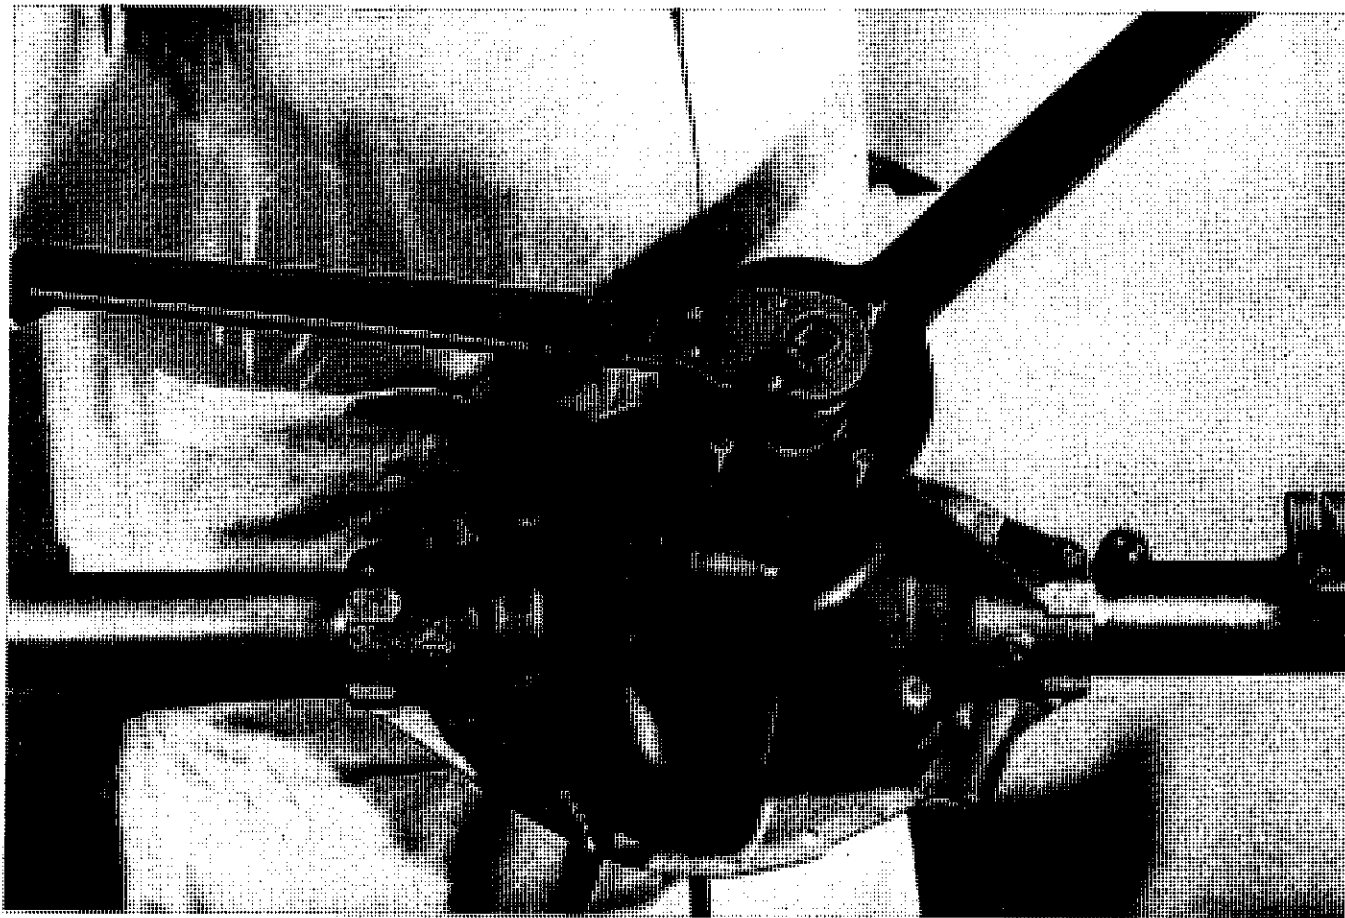
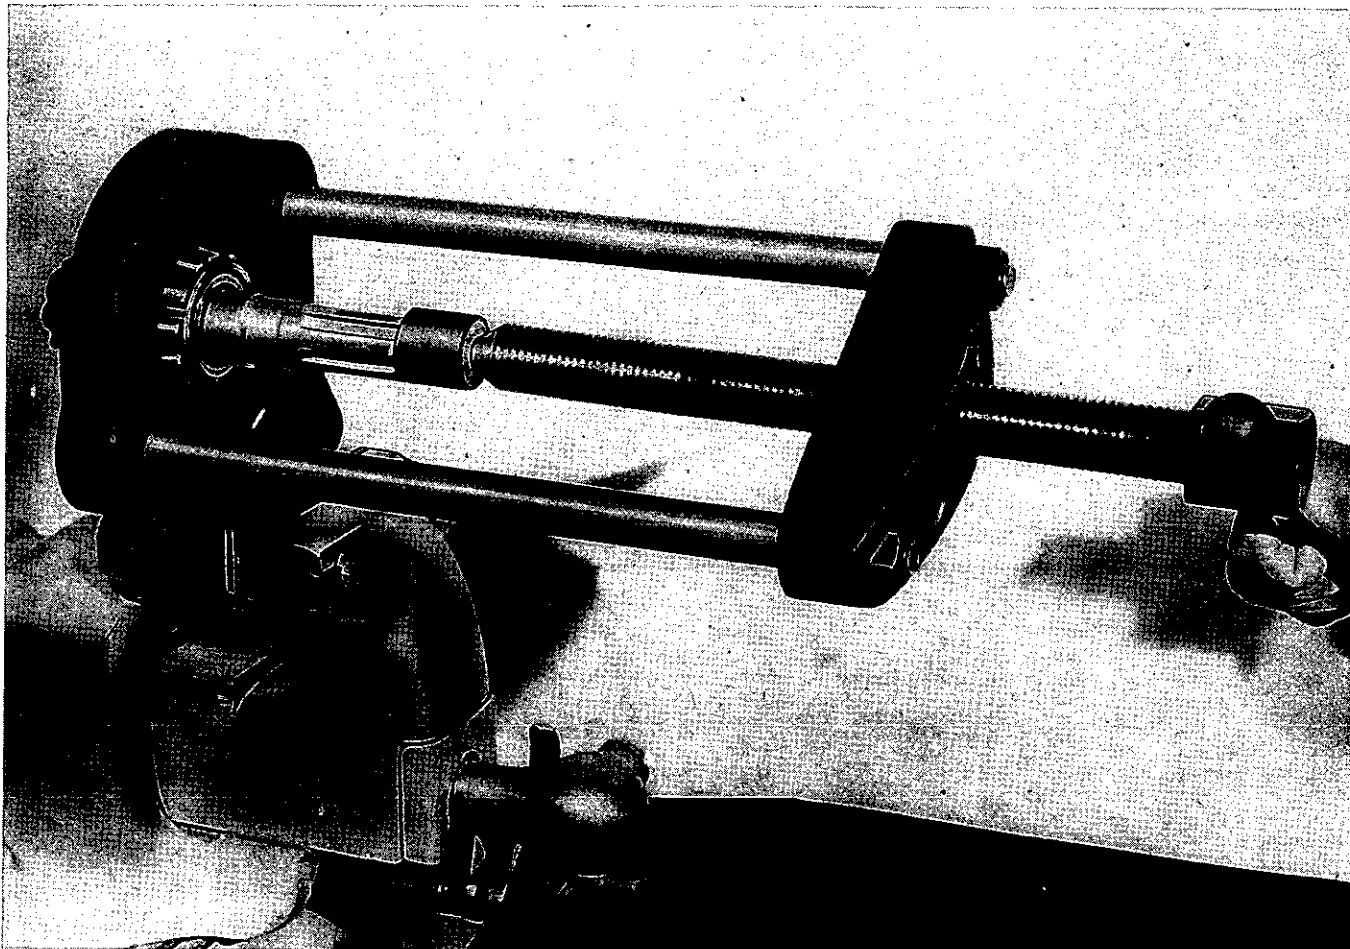

Fig. 10. Removing Pinion Driving Flange Nut—Tool No. SK/S.965.
Fig. 11. Extracting Pinion Head Bearing—Tool No. 20S. M.4615.
12. Remove pinion flange nut as shown in Fig. 10 and having removed the flange, drive the pinion out through the casing with a hide faced hammer, lay aside the shims which are fitted between the spacer and the tail race for possible use when reassembling. Remove pinion head bearing inner cone as shown in Fig. 11.